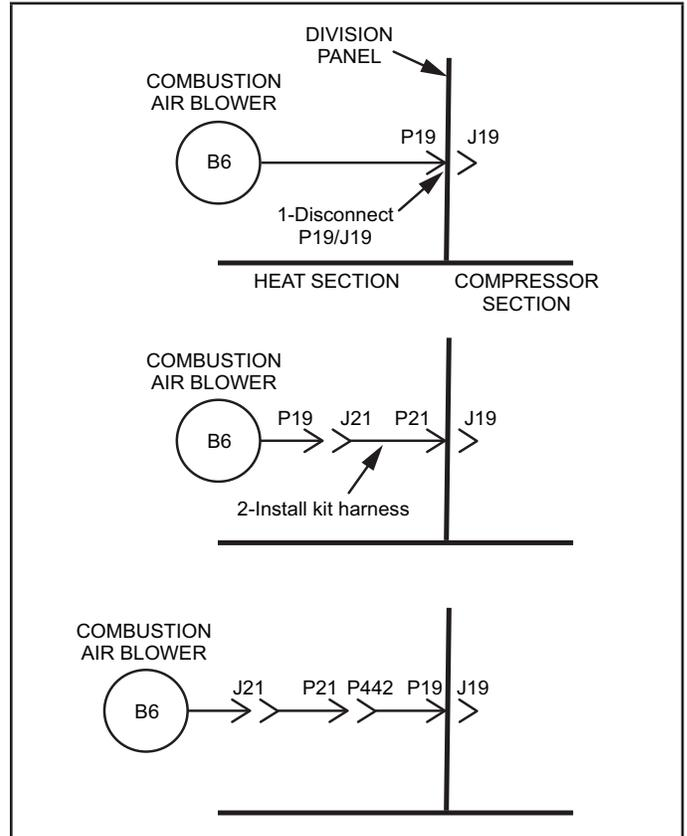

Figure 9
- 3 - Install kit harness between disconnected plugs. See figure 9.